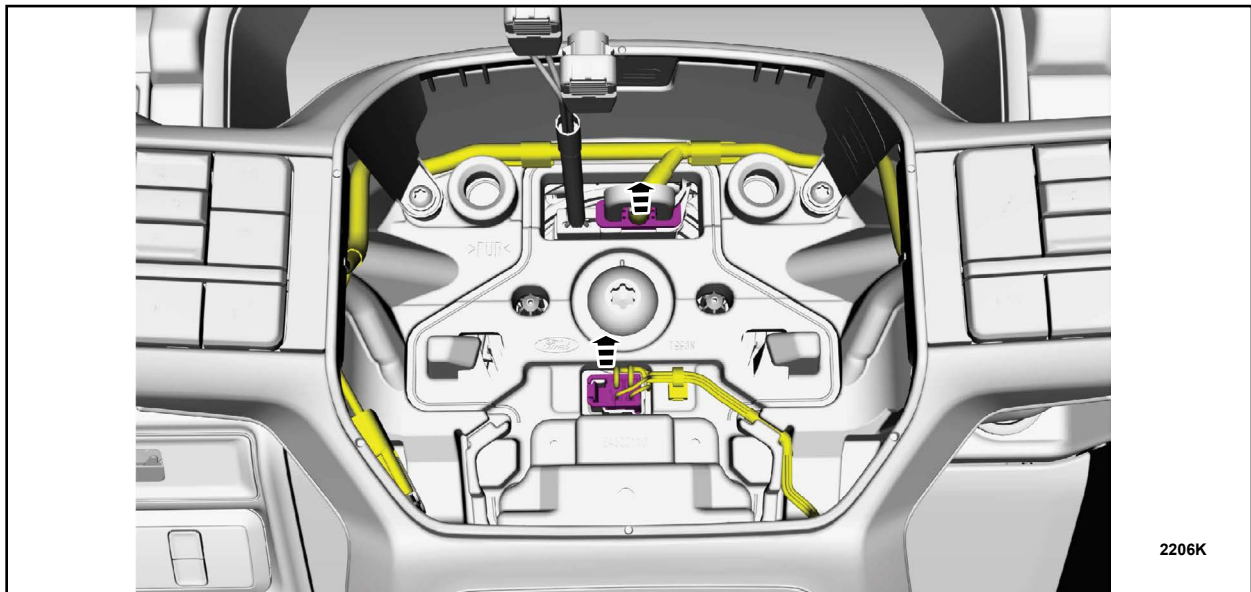

FIGURE 1
3. Disconnect the steering wheel electrical connector(s). See Figure 1.